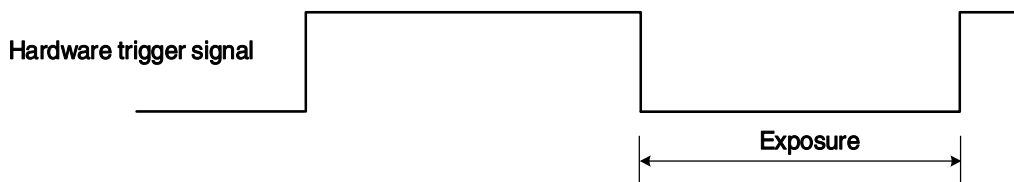

Figure 8-30 The sequence diagram in falling edge trigger of TriggerWidth exposure mode
- If falling edge triggering is enabled, exposure starts when the trigger signal falls and continue until the trigger signal rises, as shown in Figure 8-30